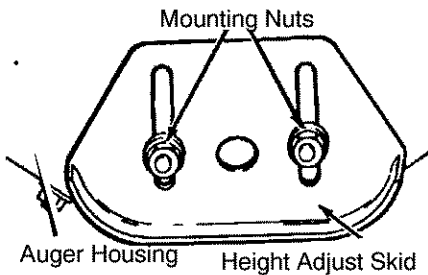

Figure 16
This snow thrower is equipped with two height adjustment skids, located on the outside of the auger housing. See Figure 16.
4. Loosen the mounting nuts that hold the adjustable skids. To bring the front of the snow thrower down, raise the adjustable skids. Tighten the mounting nuts. See Figure 16.